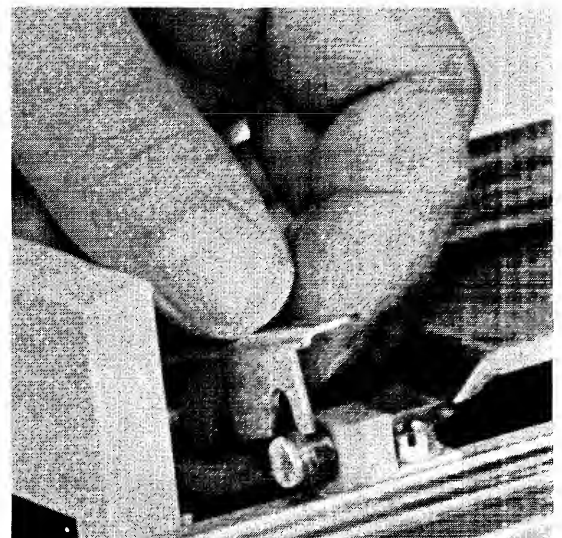

FIGURE 18 LATCHING UNITS TOGETHER
- e. Move right hand drive out and secure into the service position with latch and bracket on top of units. Reference Figure 18. While moving drives apart route right hand R/W head pigtail through left hand drive.